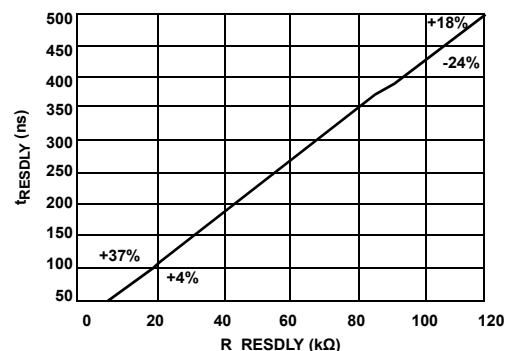

FIGURE 10. R_RESDLY vs $RESDLY$
- Figure 10 illustrates the relationship of the value of the resistor (R_RESDLY) and the resonant delay (t_{RESDLY}). The percentages in the figure are the tolerances at the two end points of the curve.